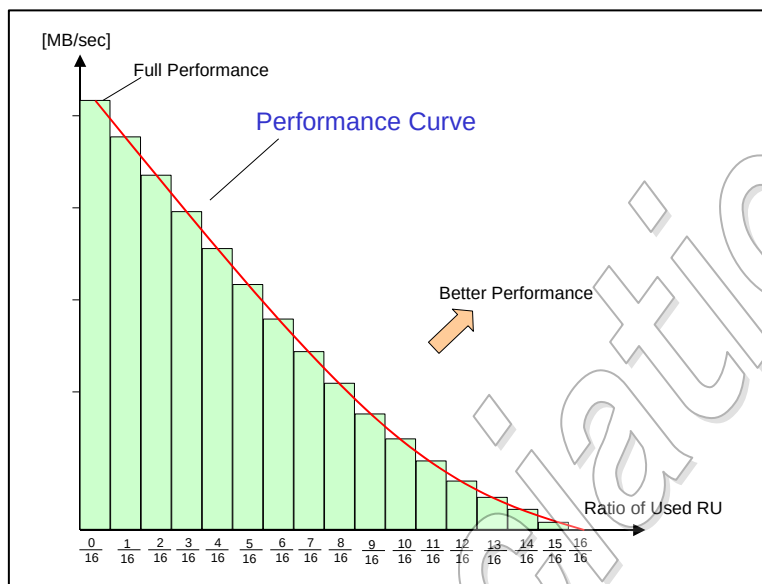

Figure 4-49 : Card Performances between 16 RUs
Figure 4-49 shows the write performance bar chart of $P(Nu)$ of equation (1). An AU consists of 16 RUs in this example. Joining the points of each bar shows the performance curve, which can be determined from the two parameters, P_w and P_m .